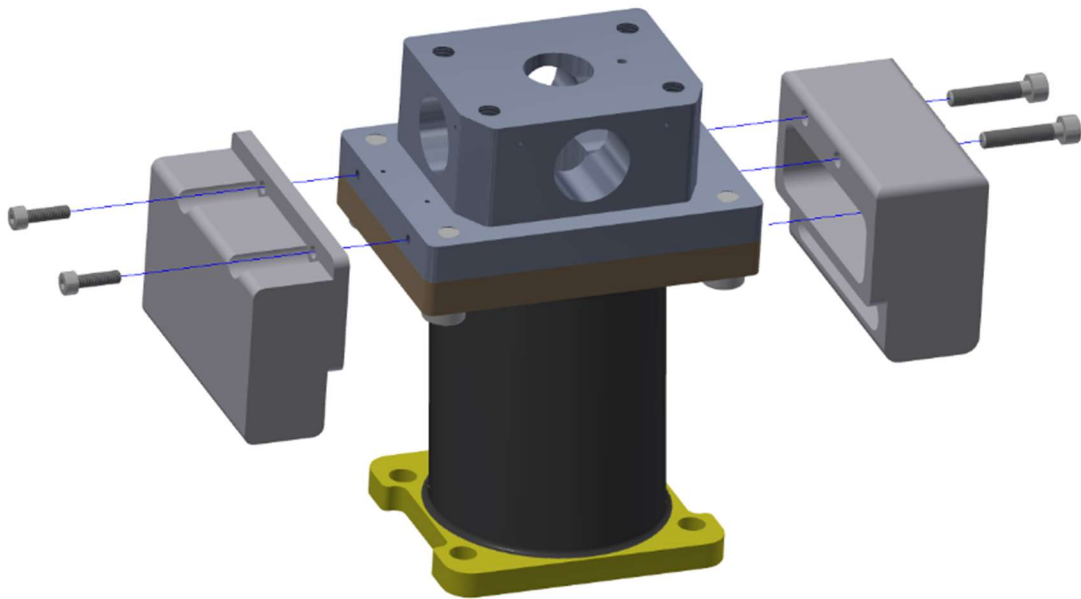

Figure 6-25. Remove the Structural Replacements, On Board DAS DB (474-3006)
6.2.14 Remove the Left Lower Spine Ballast (474-3002-1) by removing two M5 X 0.8 X 25 LG. SHCS. Then remove the Right Lower Spine Ballast (474-3002-2) by removing two M4 X 0.7 X 14 LG. SHCS (Figure 6-25).